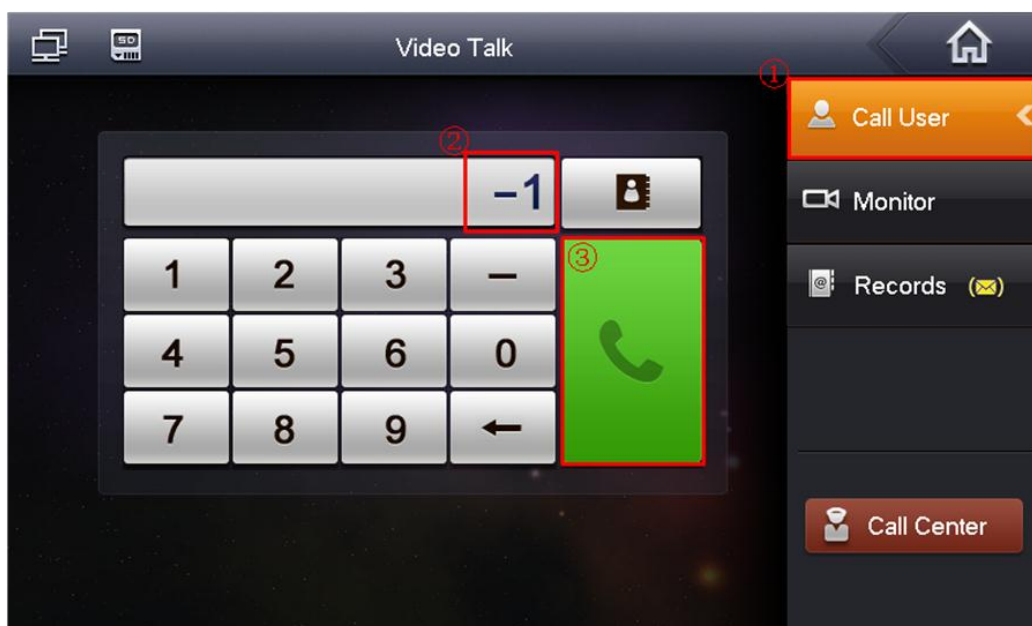

Figure 2-16
- For the VTH, from "Video Talk->Call User", input "-1" to call the VTH extension number. See Figure 2-16.